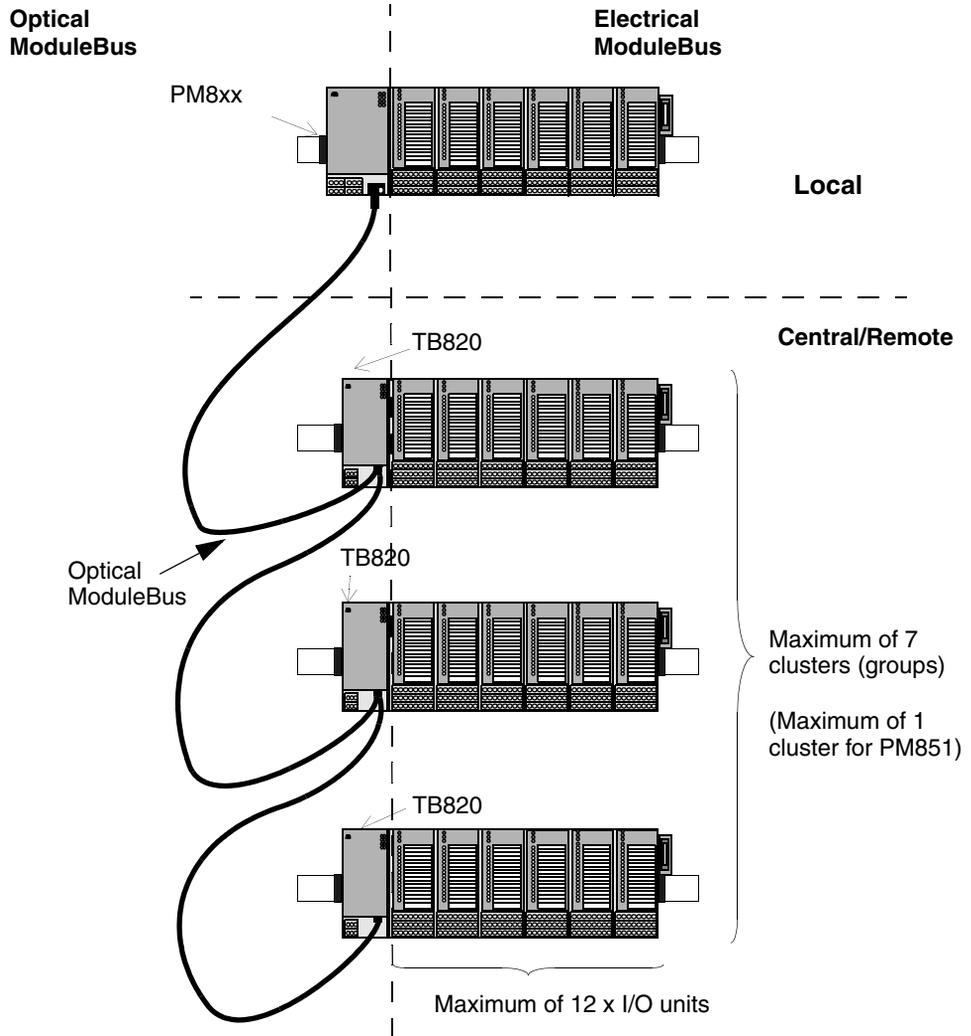

Figure 54. Electrical and Optical ModuleBus Configuration
- Electrical ModuleBus, (see Figure 54 on page 160) – 1 cluster (group), with a maximum of 12 S800 I/O units connected.
- Optical ModuleBus (see Figure 54 on page 160) – 7 clusters (groups), with maximum  $7 \times 12 = 84$  S800 I/O units connected.